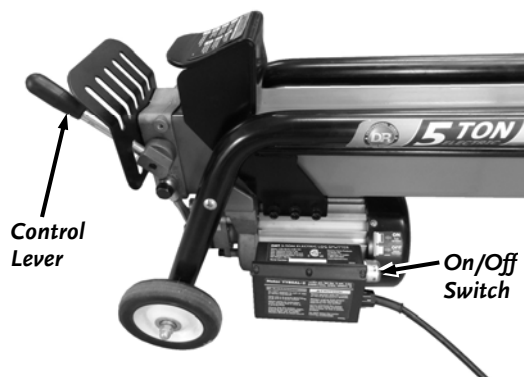

Figure 5
2. Push the On/Off Switch all the way in and then pull finger away to start the Motor (**Figure 5**).